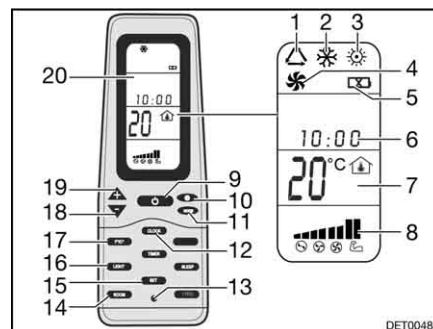

Fig. 200 Remote control
- Press the ON/OFF button (Fig. 200,9).
- Press the "Mode" button (Fig. 200,11) as often as required until the required mode (Fig. 200,1, 2, 3 or 4) is indicated on the display (Fig. 200,20).
- Use the "+" (Fig. 200,19) and "-" (Fig. 200,18) buttons to set the desired temperature.
- Use the fan speed button (Fig. 200,10) to select the desired fan level.